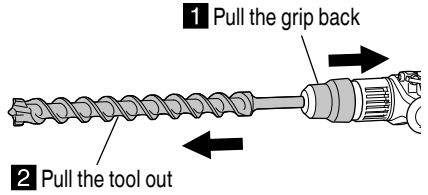

Fig. 16
- (3) Pull the tool to make sure it is locked completely.
- (4) To remove the tool, fully pull the grip in the direction of the arrow and pull out the tool (Fig. 16).